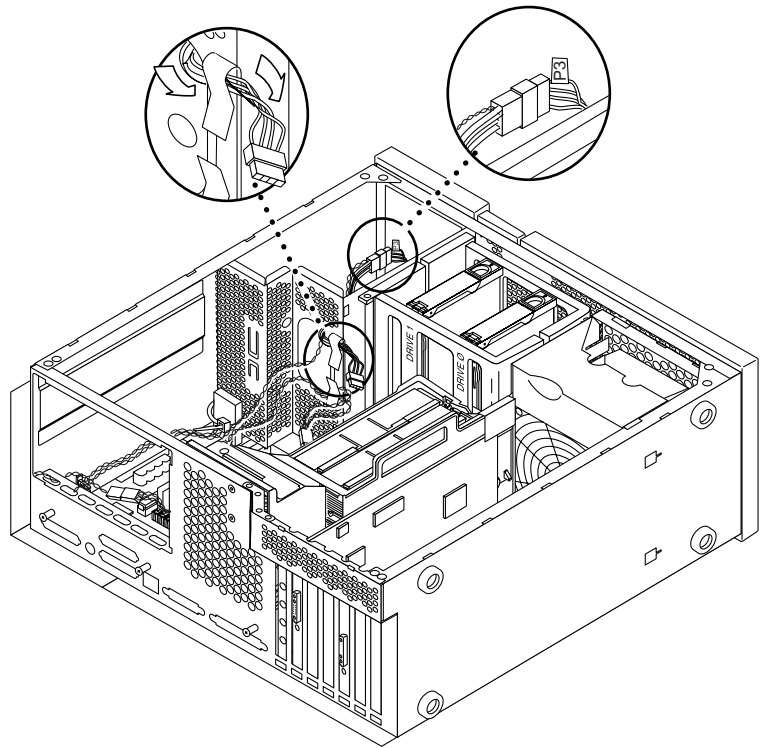

FIGURE 1-9 Connecting the Pass-Through Power Connector
8. Connect the female connector of the voltage regulator power pass-through connector to the SCSI device power connector labeled “P3” as shown in FIGURE 1-9.